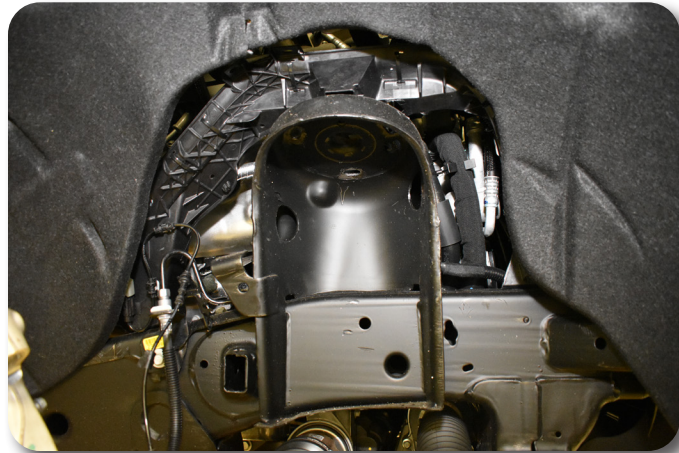

Figure 14
18. Remove the ABS wire / brake sensor wire from the upper control arm. Remove the upper control arm from the vehicle by removing the two bolts attaching the upper control arm to the strut bucket / frame Figure 14. Save hardware.